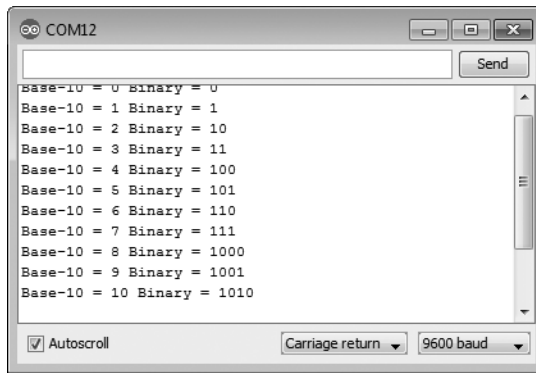

Figure 6-3: Output from Listing 6-2
We display byte variables as base-10 numbers using DEC ❶ or as binary numbers using BIN ❷ as part of the `Serial.print()` function. After uploading the sketch, you should see output in the Serial Monitor similar to that shown in Figure 6-3.